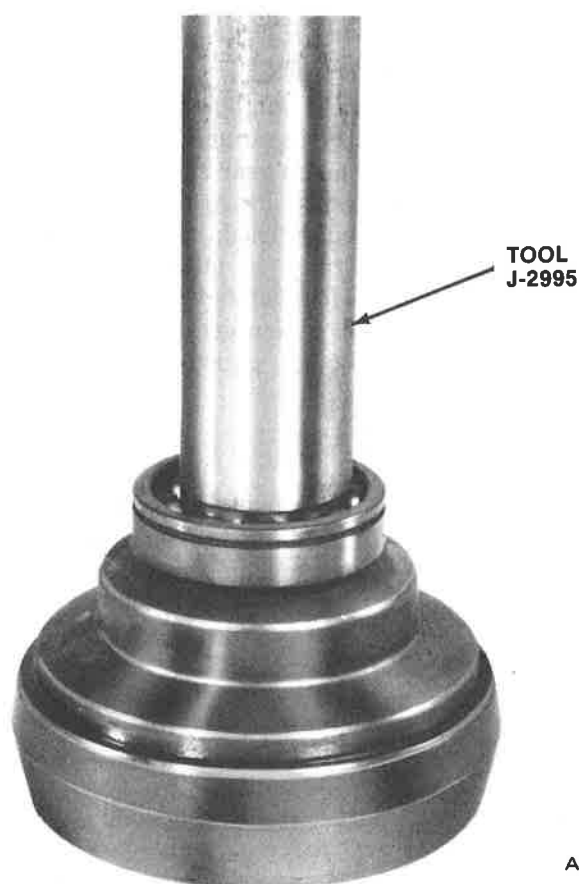

Fig. 6-50 Main Shaft Bearing Installation
(1) Lubricate main shaft bearing with transmission fluid and install main shaft bearing on main shaft with snap ring groove toward rear of main shaft. Seat bearing on main shaft with Bearing Installer Tool J-2995 (fig. 6-50).
(2) Install speedometer drive gear on main shaft with shoulder side of gear toward main shaft bearing. Install new speedometer drive gear washer on top of gear with washer tab located in main shaft slot and install speedometer drive gear locknut (finger-tighten only).
(3) Place Torque Adapter Tool J-25312 on spline end of main shaft. Place Installer Tool J-25311 on speedometer drive gear locknut. While holding locknut with Tool J-25311 and ratchet handle, insert a torque wrench into Adapter Tool J-25312 and tighten locknut